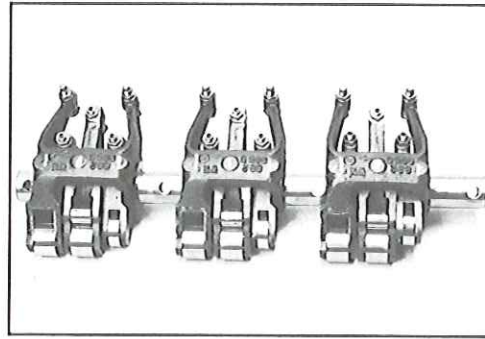

FIG. 53
7. Replace the injector rocker arm assembly that has the damaged roller with a new part. Reassemble the parts in the same order as they were removed (see Fig. 53).